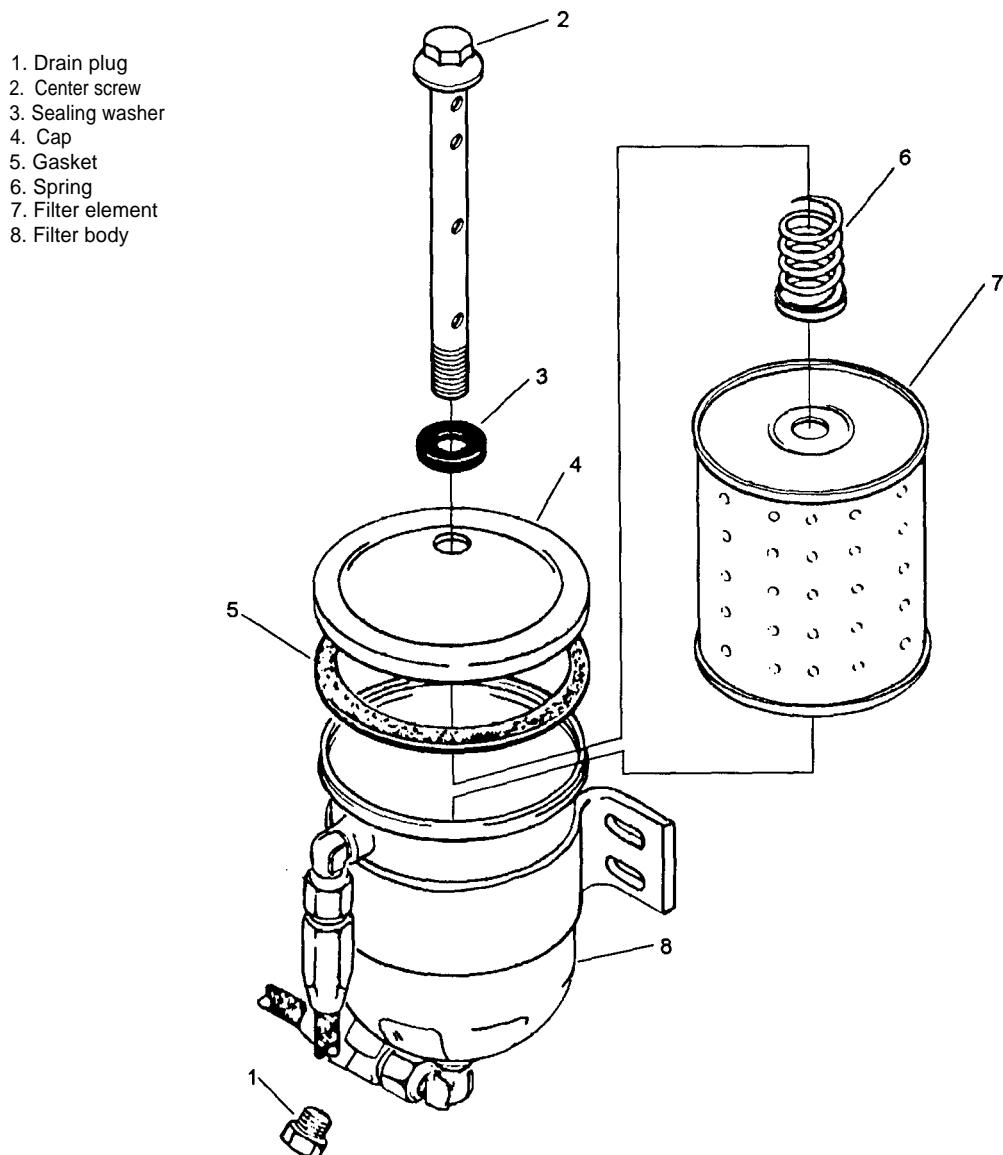

Figure 4-1. Servicing the Engine Oil Filter
- (1) Thoroughly clean the oil filter casings and the surrounding area.
- (2) Remove drain plug (1, Figure 4-1) and allow the oil to drain into a suitable container.
- (3) Remove center screw (2) and sealing washer (3).
- (4) Remove cap (4), gasket (5), spring (6), and filter element (7) from filter body (8). Discard gasket and filter element.
- (5) Install replacement filter element (7) into filter body (8).
- (6) Install spring (6), replacement gasket (5) and cap (4) and secure with washer (3) and center screw (2). Tighten center screw securely to prevent leaks.
- (7) Install drain plug (1) and tighten securely